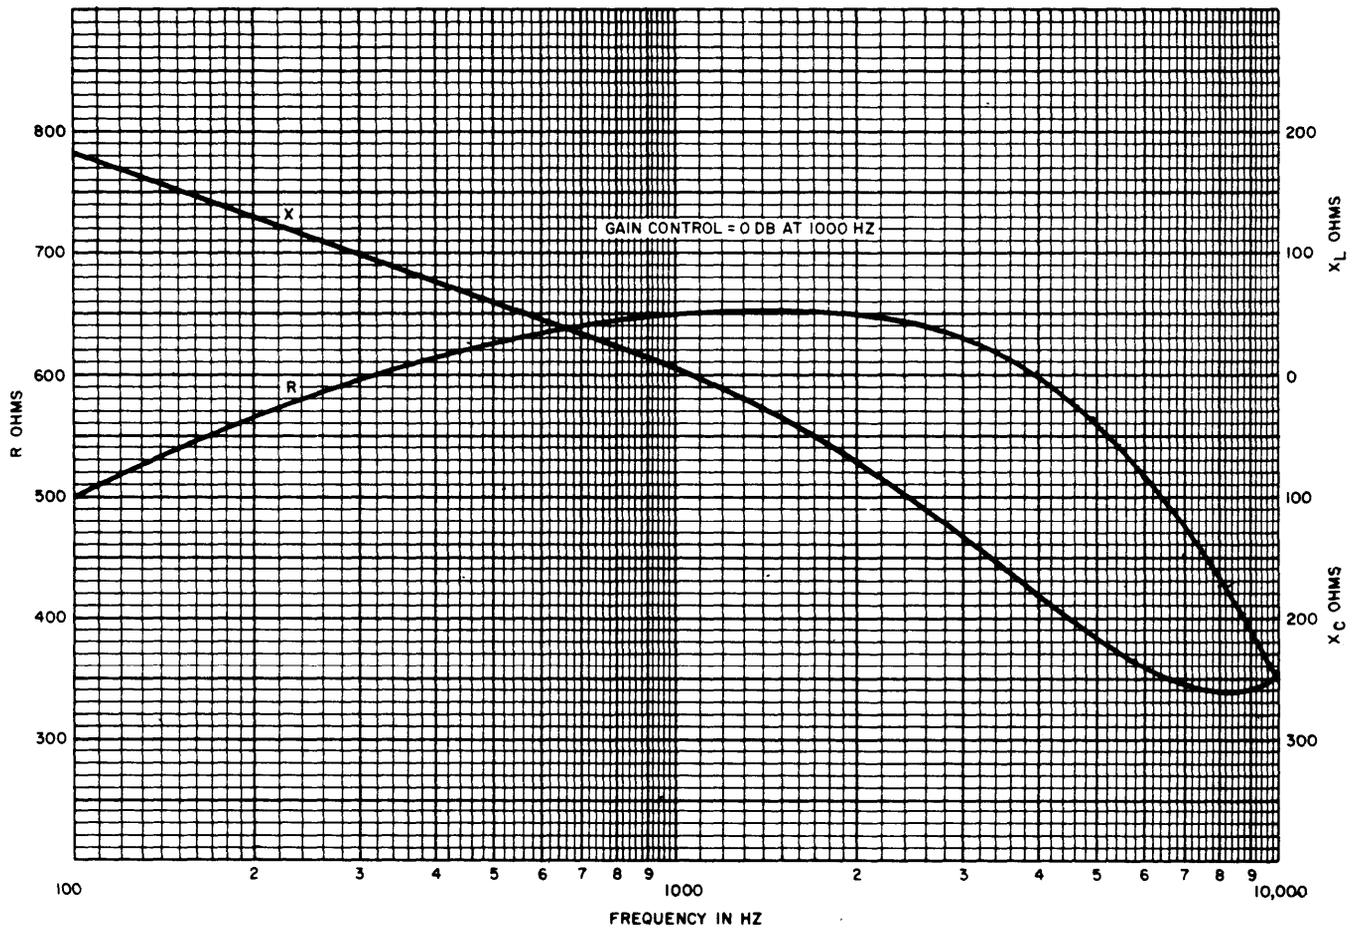
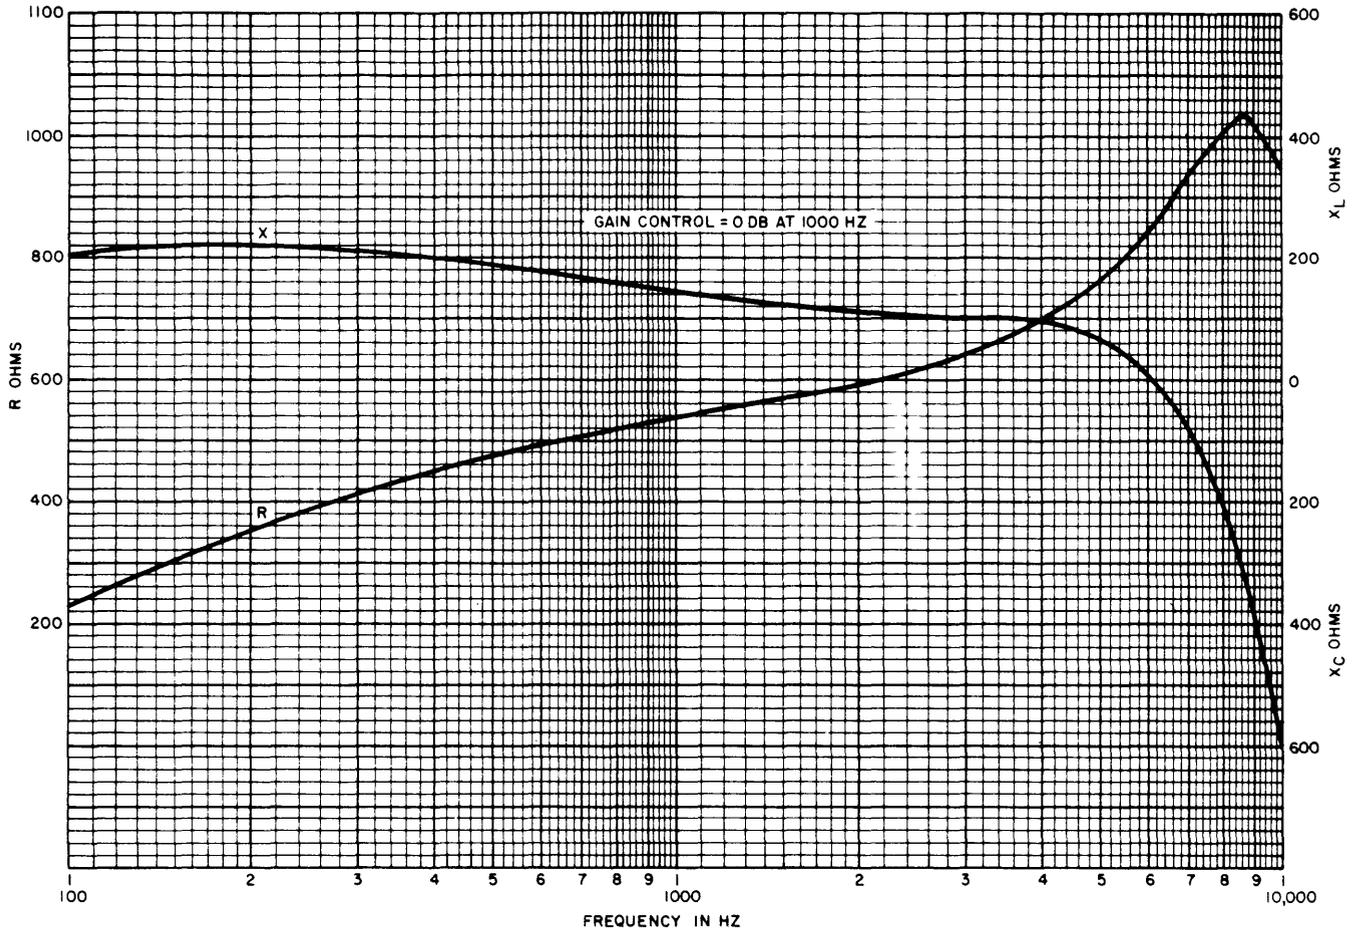

Fig. 3—KS-20378 Amplifier Input Impedance—600-Ohm Termination
Fig. 4—KS-20378 Amplifier Output Impedance—600-Ohm Termination
4.01 The KS-20378 amplifier presents a nominal input and output impedance of 600 ohms at 1000 Hz. Figure 3 shows the input impedance of the amplifier with the gain control potentiometer adjusted for 0 dB at 1000 Hz. At 1000 Hz the inductive and capacitive reactance cancels out, resulting in approximately 600 ohms resistance. Figure 4 shows the output impedance of the amplifier with the gain control potentiometer adjusted for 0 dB at 1000 Hz.